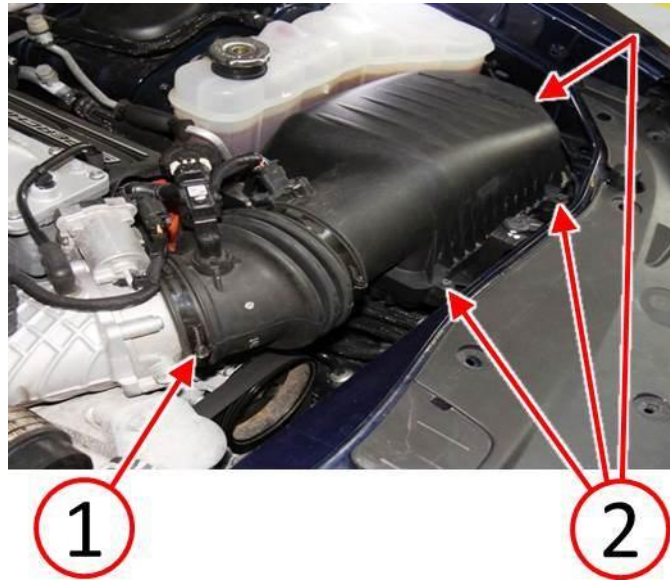

Fig. 23 Air Inlet
56. air cleaner housing cover (Fig. 23).